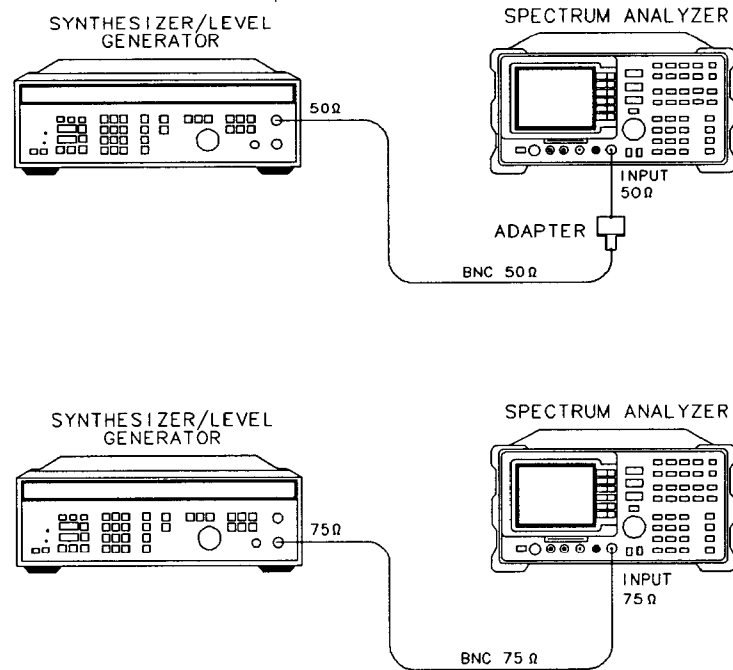

Figure 2-13. Cal Attenuator Error Correction Setup
3. Connect the 50Ω output of the HP 3335A to the analyzer INPUT 50Ω. See Figure 2-13.
(*Option 001:* Perform this procedure using the 75Ω output of the HP 3335A and a 75Ω BNC cable from HP 3335A to the analyzer INPUT 75Ω.) See Figure 2-13.